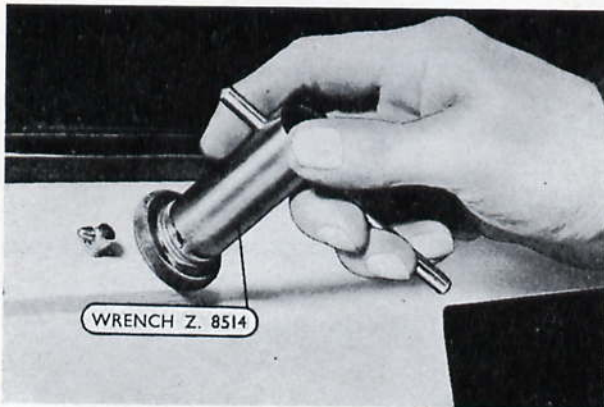

Fig. U.2. Removing the nut from a wiper pivot housing
5. Remove the pivot housing nuts (Fig. U.2), escutcheons and seals.